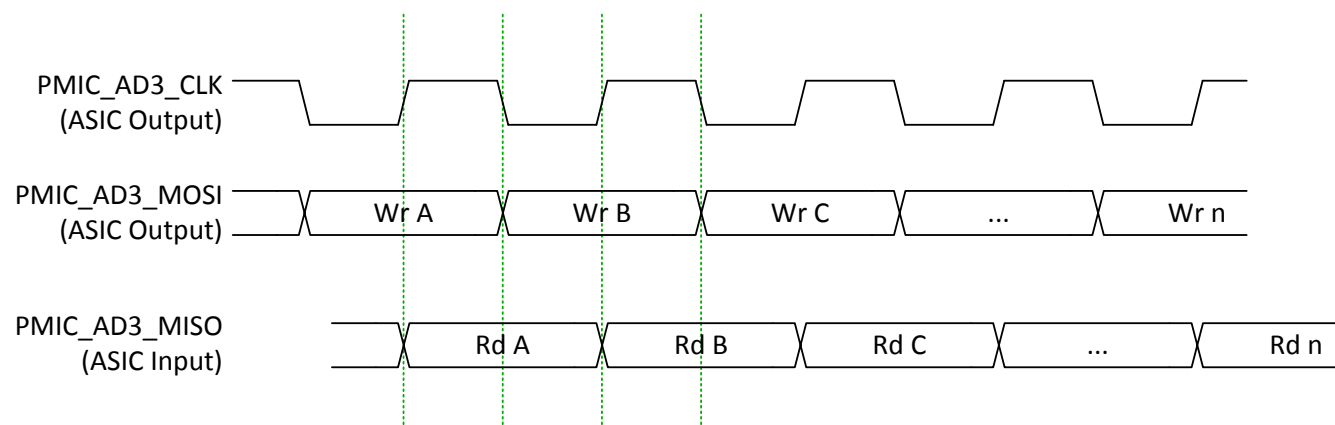

図 5-12. TPS99000-Q1 AD3 Data Capture and Transition
- (1) The DLPC23x-Q1 communicates with the TPS99000-Q1 using a slight variant of SPI Transfer Mode 0 (that is, clock polarity = 0, clock phase = 0). Instead of capturing MISO data on the clock edge opposite from that used to transmit MOSI data, the DLPC23x-Q1 captures MISO data on the same clock edge used to transmit the next MOSI data. As such, the DLPC23x-Q1 SPI interface to the TPS99000-Q1 requires that MISO data from the TPS99000-Q1 remain active until the end of the full clock cycle to allow the last data bit to be captured. This is shown in Figure 5-12.